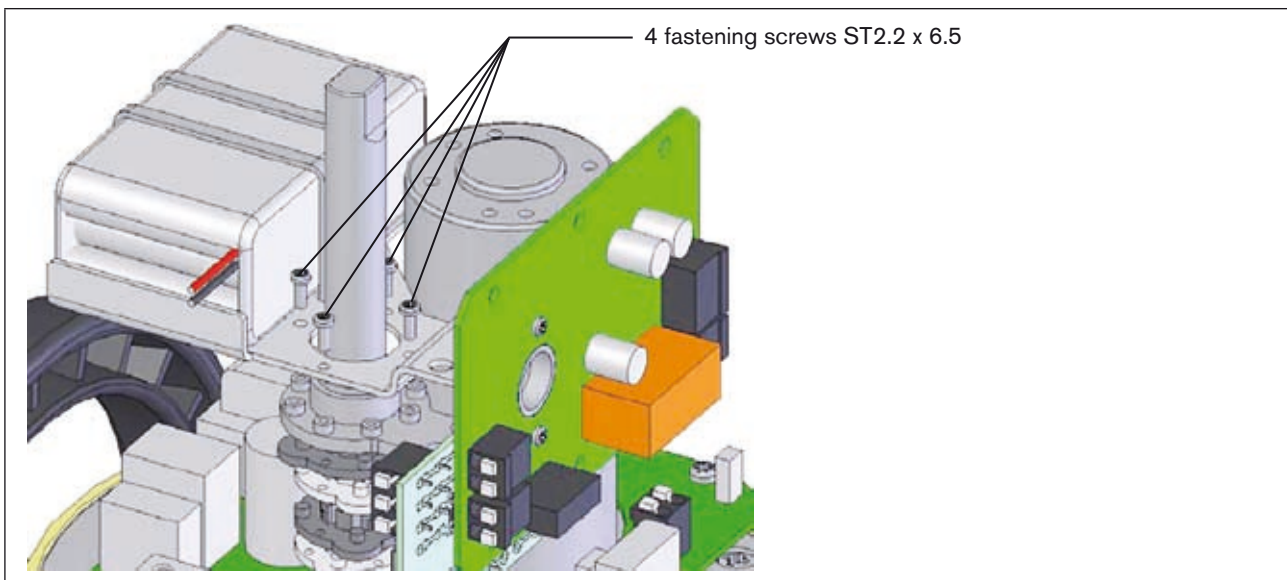

Fig. 19: Illustration: installation of emergency reset into the rotary actuator
- Fasten the safety block of the emergency current model onto the rotary actuator with 4 (see illustration Fig. 19:).